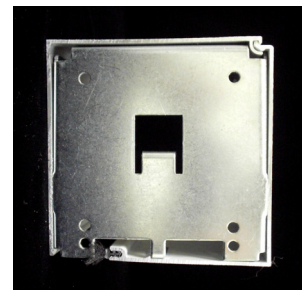

Figure 14 Fascia Snapped On Bracket
- Rotate the fascia toward the wall and snap it into place (Figure 14).